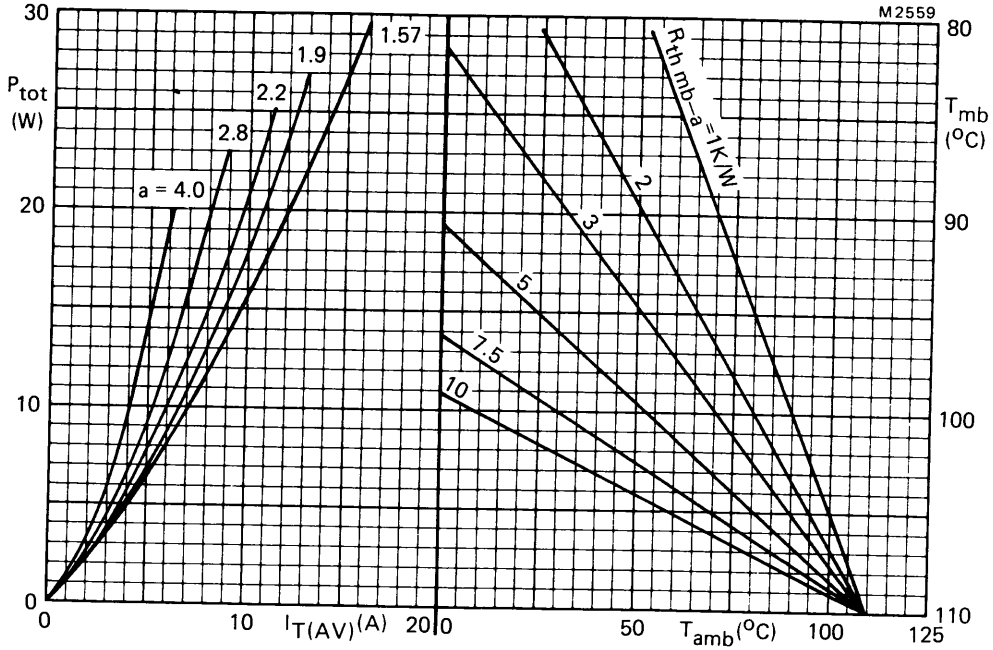

Fig.5 The right-hand part shows the interrelationship between the power (derived from the left-hand part) and the maximum permissible temperatures.
- The method of using Fig.5 is as follows: